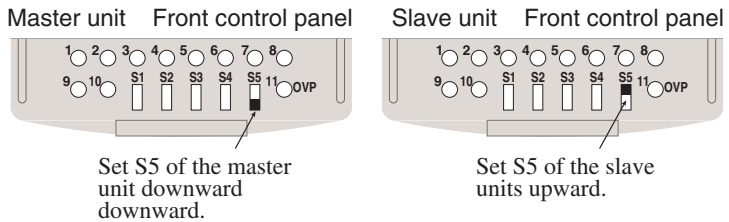

Fig.4-17 Control switch presetting for master-slave-control parallel operation
5. Set the control switch S5 of the master unit and slave units to the positions shown in Fig.4-17.